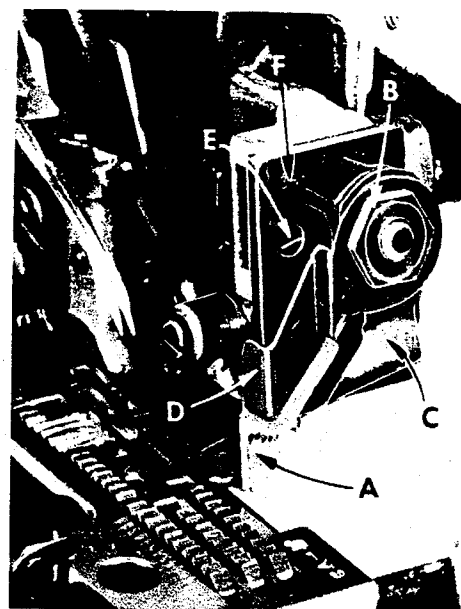

Fig. 13
Replace the upper knife assembly. Clamp upper knife (A, Fig. 13) in position, setting nut (B) to hold clamp (C) in its most clockwise position against upper knife. At the bottom of its stroke, front cutting edge of upper knife should extend not less than  $\frac{1}{64}$  inch below cutting edge of lower knife. The chain guard (D) should be set down against the upper knife and back from the cutting edge.